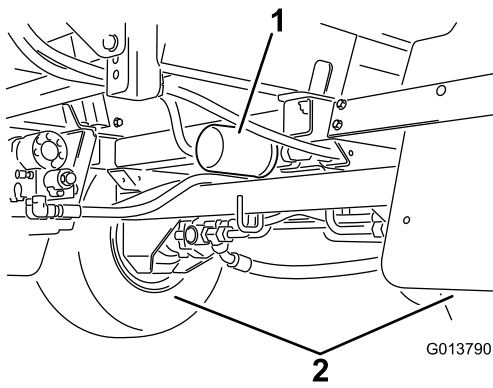

Figure 111
2. Locate the 2 hydraulic filters on the machine (Figure 110 and Figure 111).